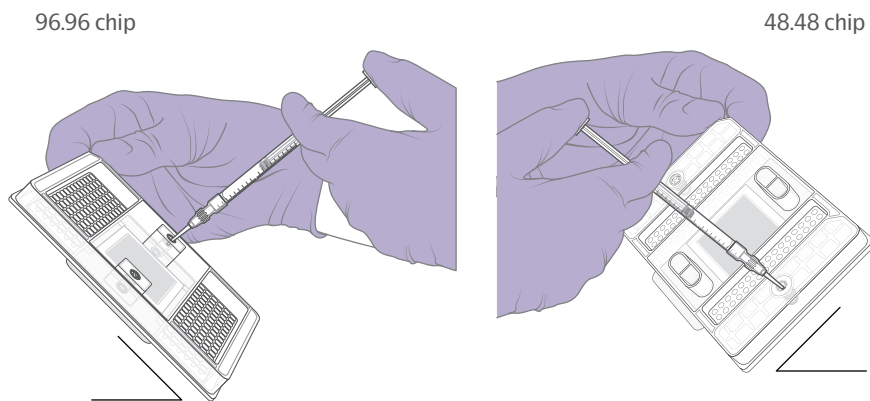

Figure 7. Inserting the syringe into an accumulator
- b. Use the syringe with the shipping cap to actuate the check valve in each accumulator with gentle pressure. Ensure that the poppet can move freely up and down (Figure 7).
4. Holding the chip at a 45° angle, insert the syringe tip into an accumulator (Figure 7).